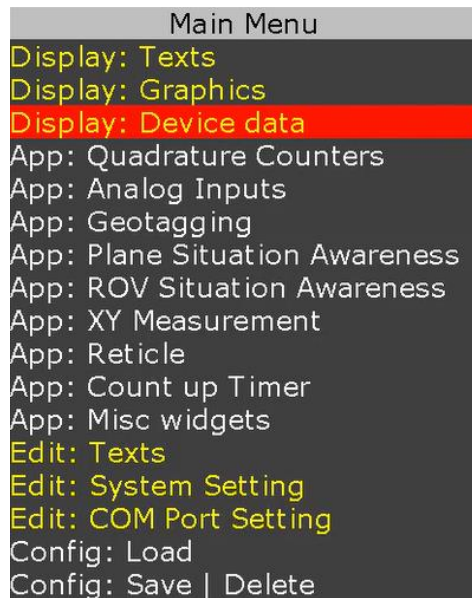
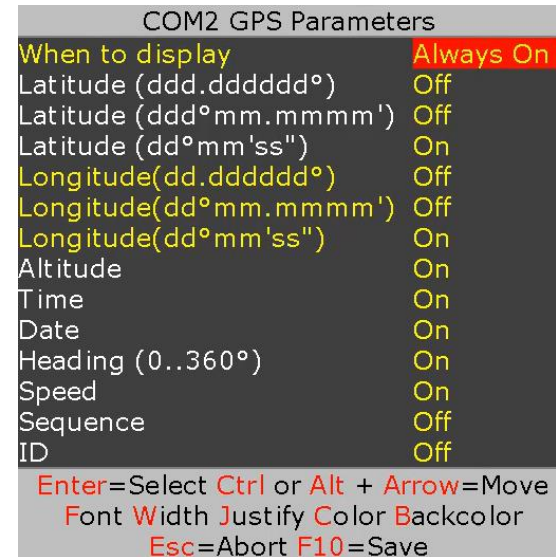
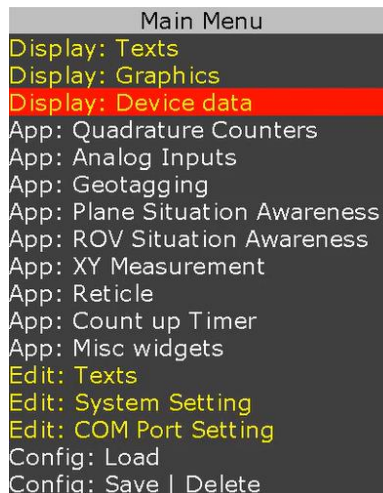
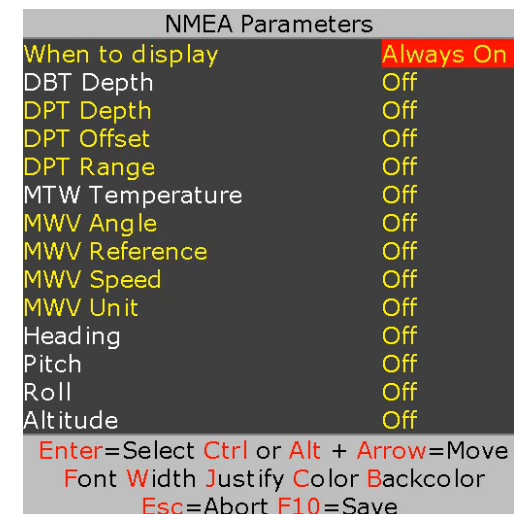

Figure 20
Figure 22
Figure 23
Figure 25
To customize the sample file to meet your needs, follow Figure 20 - Figure 22.
While in Figure 22, use \updownarrow to select desire GPS parameter. Press \downarrow to select "On". Use shortcuts keys to format the text as described below:
- For above messages, just configure COM port and PROTEUS is ready to receive messages & manage your visual data. Follow Figure 23-Figure 25 and Figure 20 - Figure 22 to display NMEA parameters.